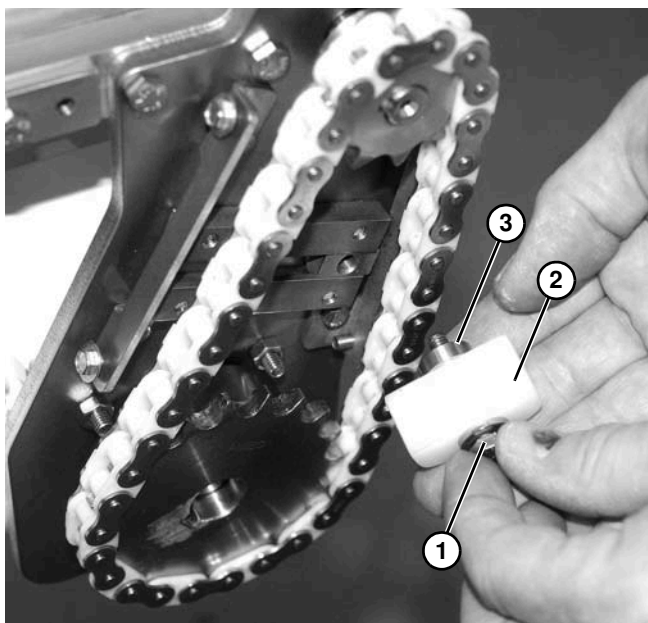

Figure 58
4. Remove screw and washer (**Figure 58, item 1**), timing chain tensioner (**Figure 58, item 2**), and spacer (**Figure 58, item 3**) from drive mounting bracket.